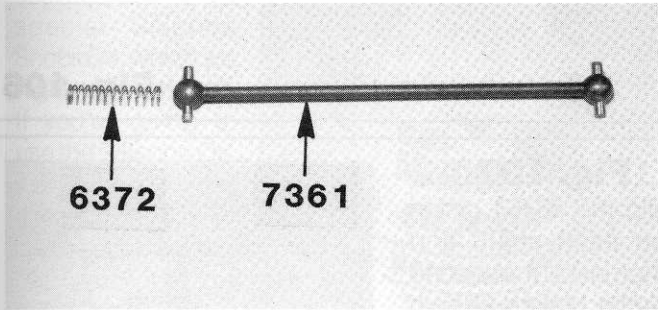

**Fig. 96**
□ **Figs. 96 & 97** Mount the arms onto the chassis with the 8-32 x 1/2" aluminum screws. There are two sets of screw holes in the mounts. Use the set that is marked in black in the photos, which is the set towards the rear of the car. Tighten the screw, but do not overtighten. Install a #8182 8-32 plain nut on the rear screw, as shown. Do the right hand side.